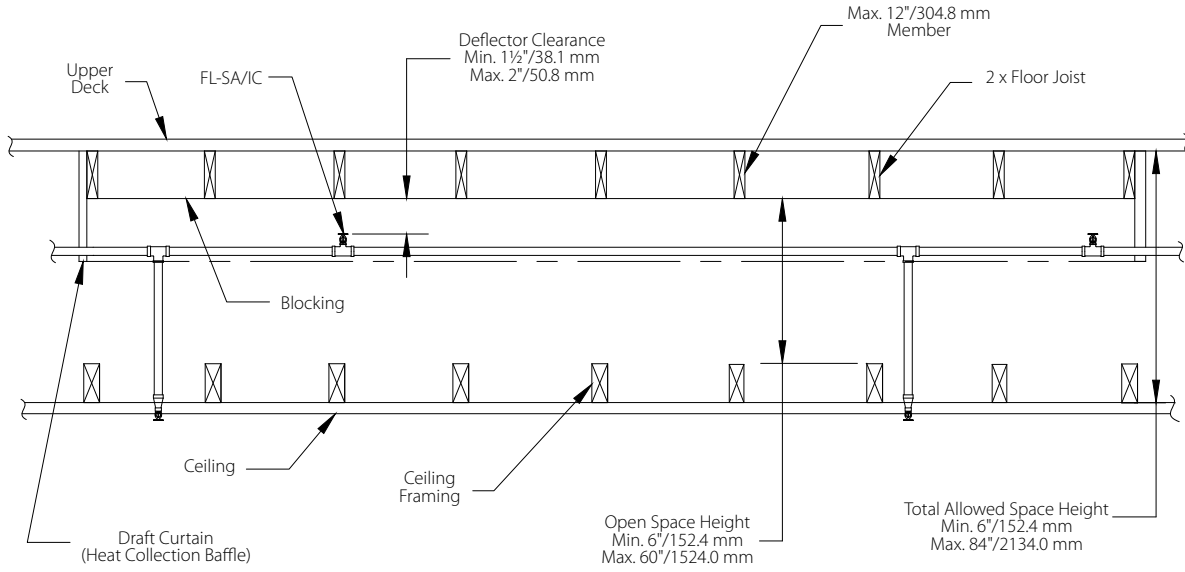

FIGURE 3
#### Solid Wood Joist Construction Without Insulation in the Upper Deck and Obstructed Wood Truss or Bar Joist Construction (Figure 3)
Draft curtains (heat collection baffle) or full-height walls must drop below the joist a minimum of 6"/152.4 mm or 1/3 of the space, whichever is greater, and limit the maximum localized detection area to 1000 ft2/93.0 m2. Draft curtains (heat collection baffle) or full-height walls must be constructed of a material that will not allow heat to escape through or above the barrier. This material may be 1/4"/6.4 mm thick plywood (refer to Figure 3, Draft Curtain).
**Deflector Position:** The vertical sprinkler deflector clearance to the bottom of the upper deck joist or bottom of upper chord of wood truss or bar joist where the upper chord is greater than 4"/102 mm in depth is 1 1/2"/38.1 mm minimum to 2"/50.8 mm maximum (refer to Figures 3, Deflector Clearance). The sprinkler must be installed only in the upright position. When the Victaulic Model FL-SA/IC Specific Application Sprinkler is used in an installation with a pitched roof and a flat ceiling, maintain the specified clearances from the sprinkler deflector to the bottom of the upper deck joist. The sprinkler deflector must be installed parallel with the plane of the roof.